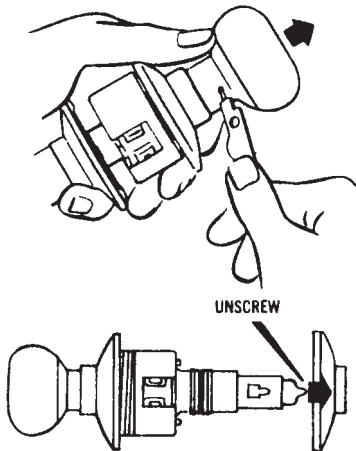

Figure 19.45 Electrified key-in-knob lock installation, Step 3.
3. Remove the lock from the box and remove the inside trim by inserting the small end of a spanner wrench through the hole in the knob bearing sleeve. This hole faces the latch retractor. Press the knob catch to slide the knob off the spindle and remove the rose from the threaded sleeve (Fig. 19.45).